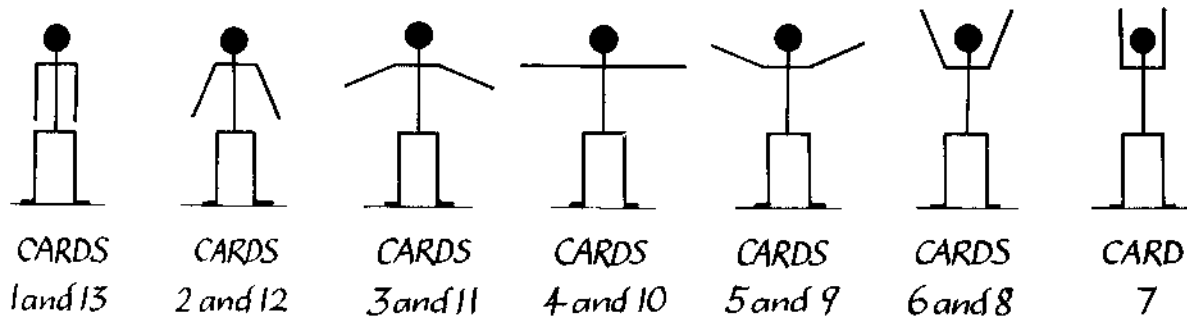

Figure 25.2 The positions of the arms
3. On the cards, draw in the arms as shown in Figure 25.2.